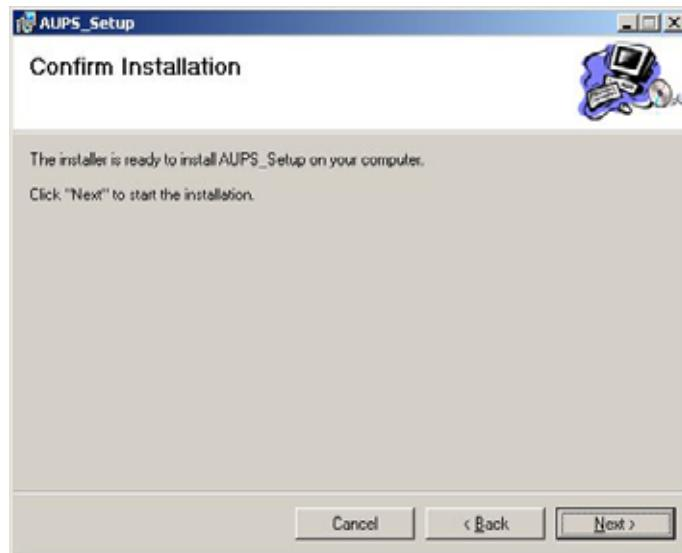

Figure 8-3: Ready to Install the Program
Step 4: Click **NEXT** and the Installshield Wizard is ready to install the program (Figure 8-3).